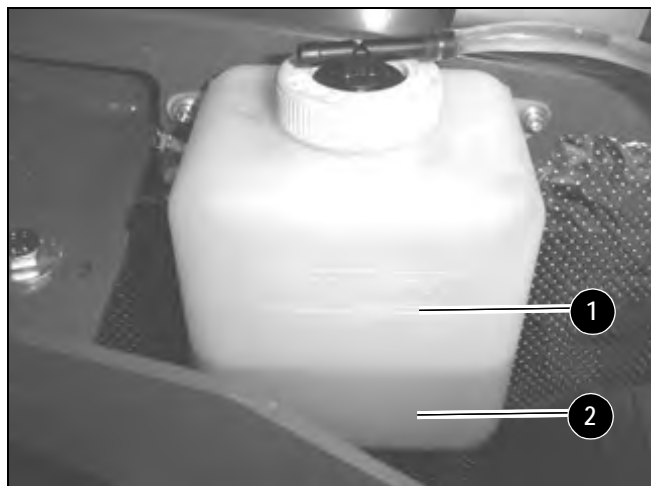

Figure 4-9 Coolant Expansion Reservoir
3. Check the coolant level in the expansion reservoir. See (1), Figure 4-9.
4. If low, (2), Figure 4-9 remove cap and overflow tube.
5. Fill reservoir to FULL line (1). Refer to “Fluid Capacities/Lubricants” on page 1-4 for the correct coolant type and to “Coolant Compound Table” on page 1-8 for the correct coolant mixture. Replace the reservoir cap.